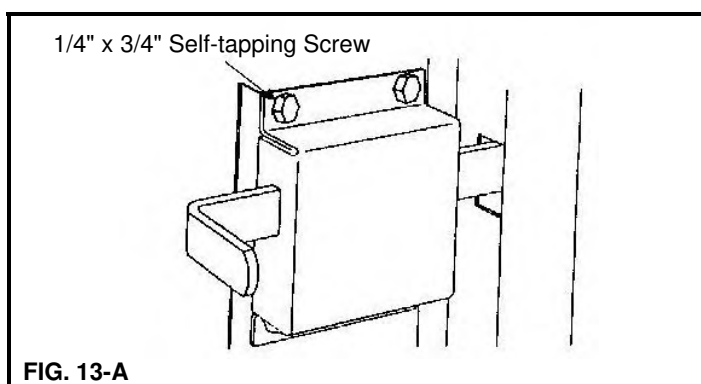

FIG. 13-A
The inside slide bolt is installed on the end stile of the second section using (4) 1/4" x 3/4" self-tapping screw (FIG. 13-A)